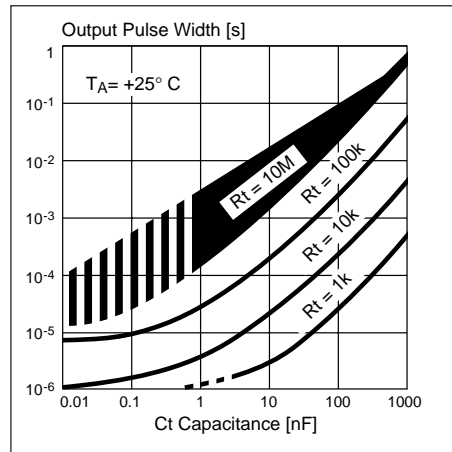

Figure 8. Typical t_{on} vs. C_T/R_T . Output pulse width vs. capacitance/resistance.
- Figure 8 shows the relationship between duty cycle, pulse width, and step frequency. Check specifications for the valid operating area.